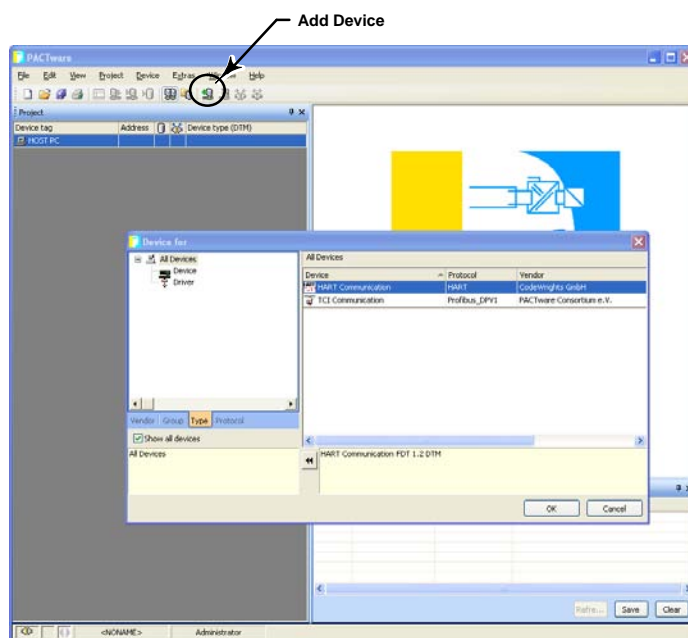

Figure 4-1. Select Add Device to Add the CommDTM
- Step 2:** Select Add Device, as shown in figure 4-1, and click on the appropriate CommDTM. Select OK.